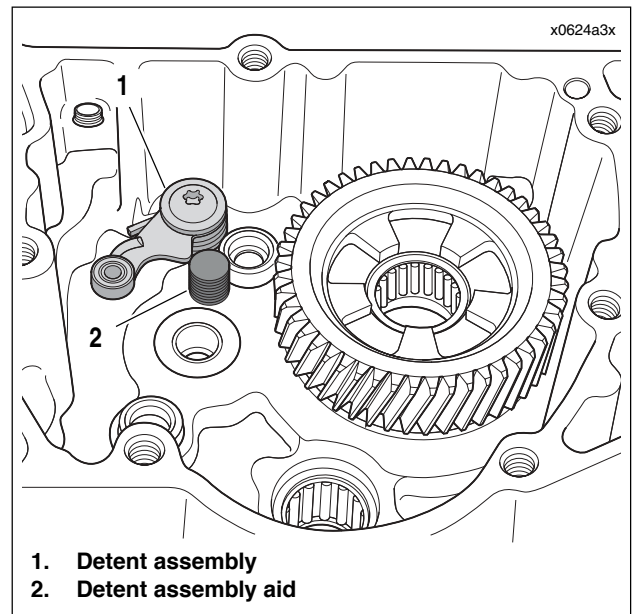

Figure 6-71. Using Gear Detent Assembly Aid (Part No. B-45520)
See Figure 6-71. The GEAR DETENT ASSEMBLY AID is used to move the gear detent lever clear of the shifter drum for assembly purposes.
1. See Figure 6-71. Retract detent assembly in right case half and thread GEAR DETENT ASSEMBLY AID into neutral switch hole until it has bottomed in right case half.